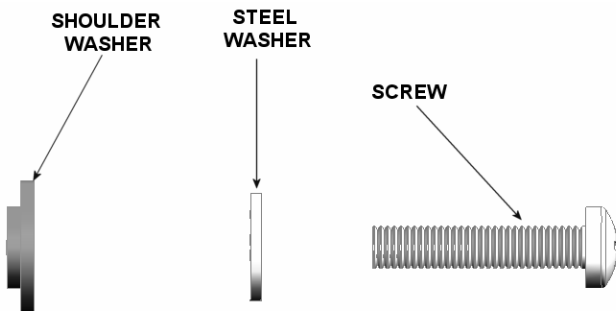
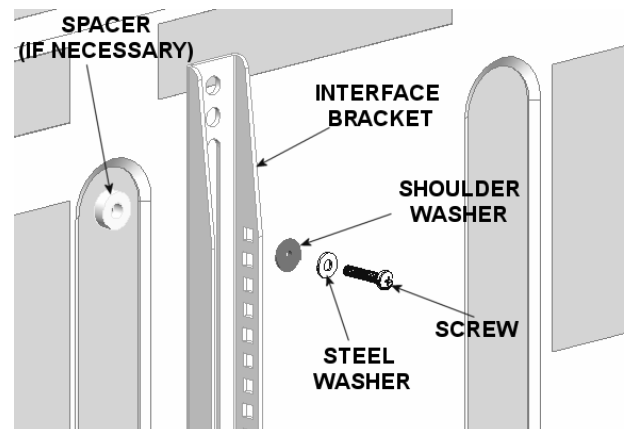

Figure 4. Attachment Parts
Figure 5. Attachment
2. Secure the left and right factory assembled interface bracket assemblies (20 and 30) to the display. Select the mounting hardware that fits your application. Read the following list and refer to Figure 4 and Figure 5.
- Use M6 screws (80 or 90) or M8 screws (50, 60, or 70), steel washers (170), and shoulder washers (210).
- Or, use M4 screws (130, 140, or 150) or M5 screws (100, 110, or 120) steel washers (160), and shoulder washers (200).